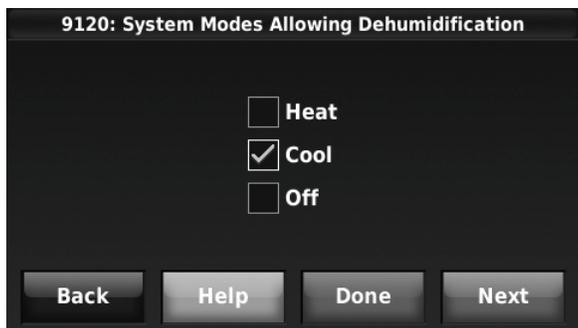

Fig. 230.
- Select the system mode(s) to allow dehumidification. See Fig. 230.